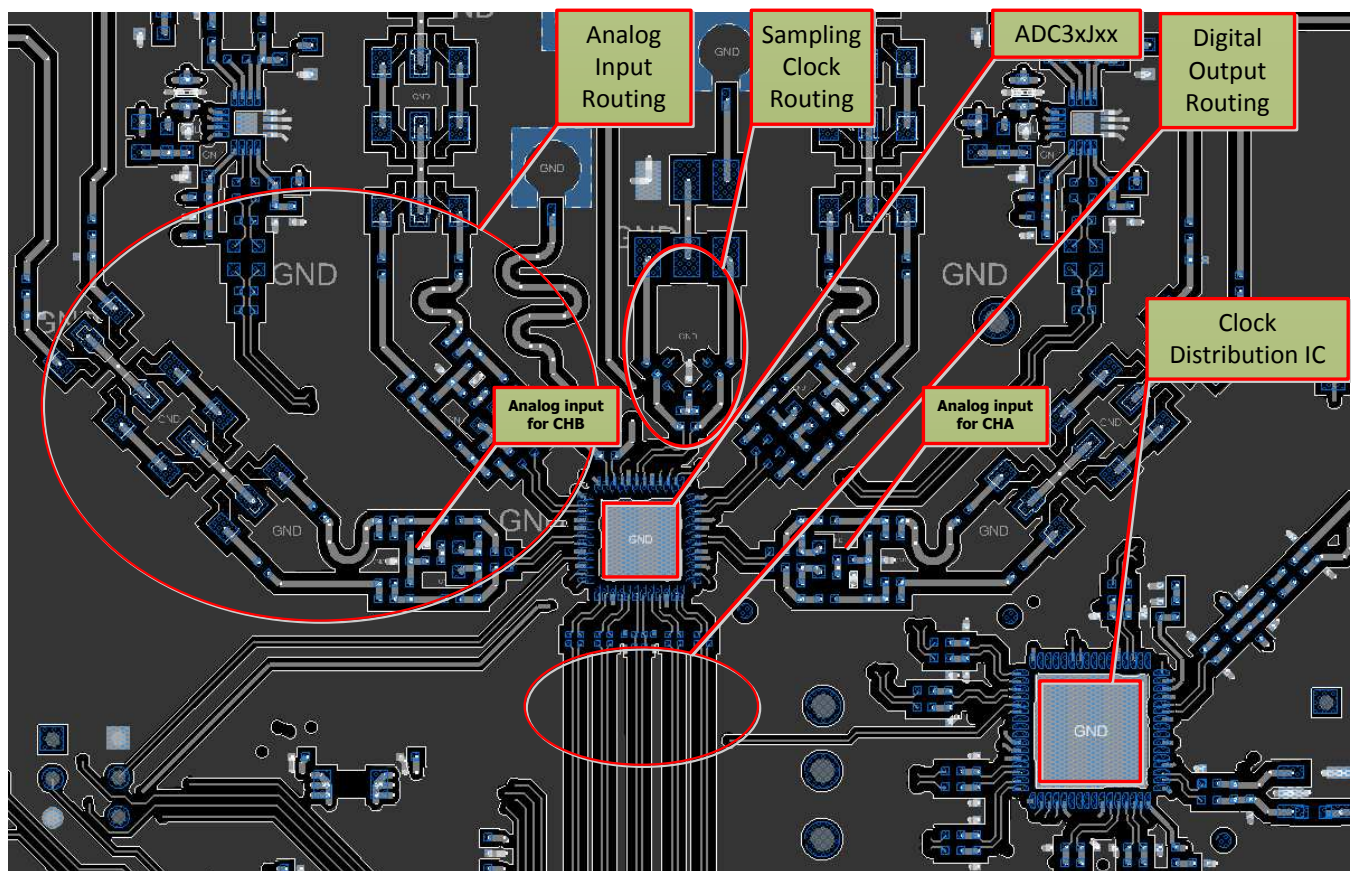

Figure 202. Typical Layout of the ADC32J4x Board
The ADC32J4x EVM layout can be used as a reference layout to obtain the best performance. A layout diagram of the EVM top layer is provided in Figure 202. Some important points to remember when laying out the board are:
1. Analog inputs are located on opposite sides of the device pin out to ensure minimum crosstalk on the package level. To minimize crosstalk onboard, the analog inputs must exit the pin out in opposite directions as much as possible, as shown in the reference layout of Figure 202.
2. In the device pin out, the sampling clock is located on a side perpendicular to the analog inputs in order to minimize coupling between them. This configuration is also maintained on the reference layout of Figure 202 as much as possible.